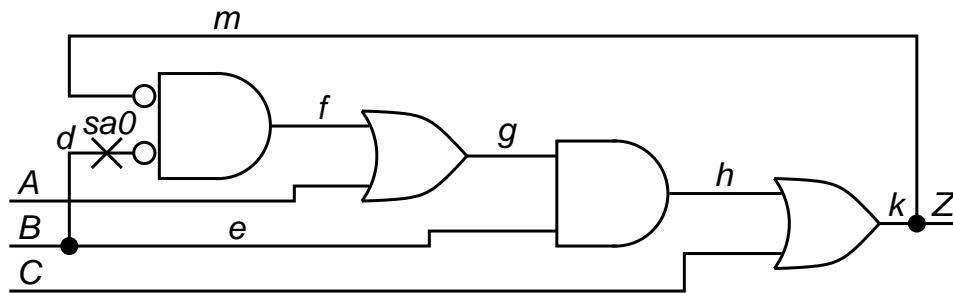

Figure 3: Circuit for Problem 8.24.
8.24 *Oscillation fault.* The synchronous in Figure 3 is designed to have no memory state. Derive a test for the fault d sa0 and show that this is an *oscillation fault*. Redesign the fault-free function as a purely combinational circuit.